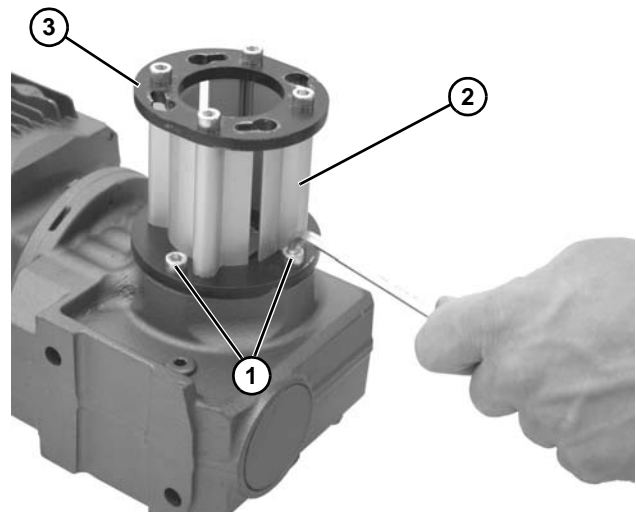

Figure 13
5. Remove the four (4) gearmotor coupling guard screws (Figure 13, item 1) and remove the gearmotor coupling guard (Figure 13, item 2) and mounting ring (Figure 13, item 3).
12. Install gearmotor coupling guard (**Figure 13, item 2**) and mounting ring (**Figure 13, item 3**) to gearmotor, and tighten screws (**Figure 13, item 1**) to 110 in-lb (12 N-m).